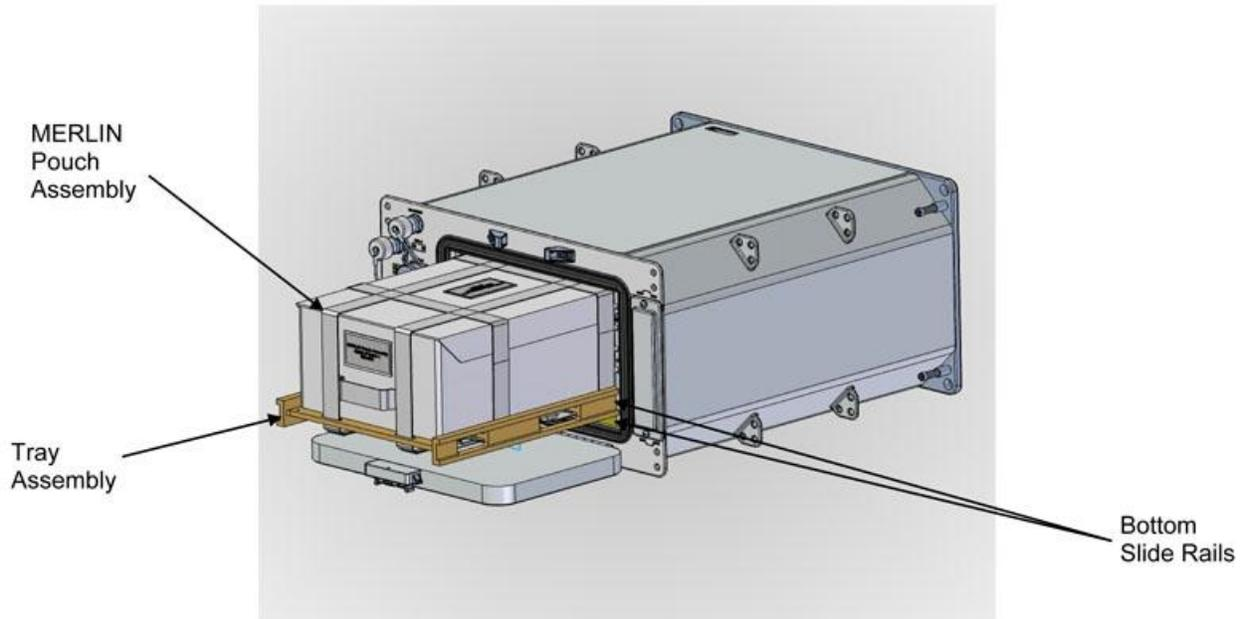

Figure 6. MERLIN Pouch Assembly Pulled Partially out of MERLIN
3.3 Slide Pouch/Tray Assembly into MERLIN using bottom slider rails of internal volume. Refer to Figure 6.